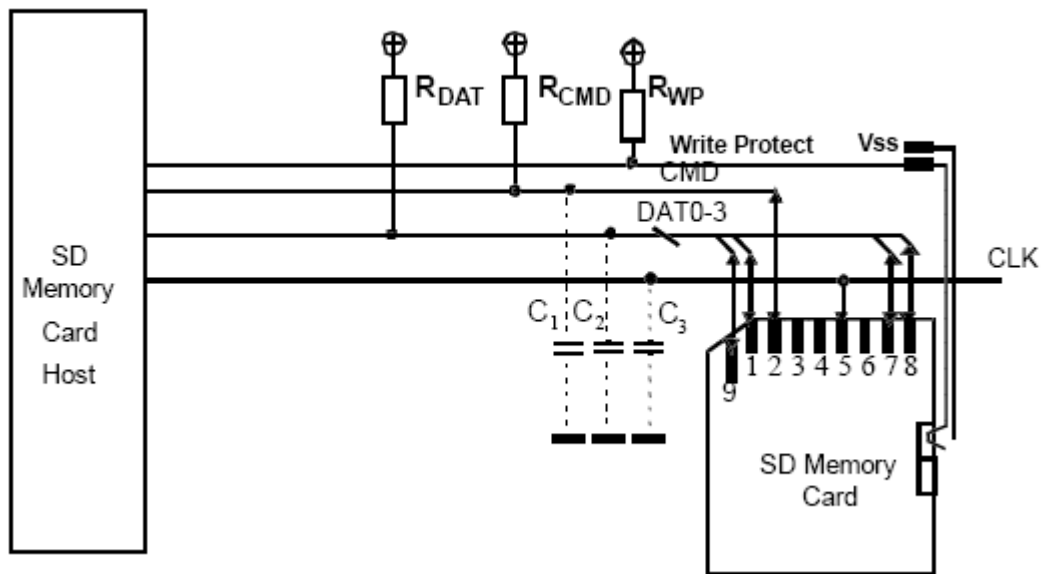

Figure 7 : Bus Circuitry Diagram
The Industrial Grade SD Card identification and addressing algorithms are replaced by a hardware Chip Select (CS) signal. A card (slave) is selected, for every command, by asserting (active low) the CS signal (see Figure 7). The CS